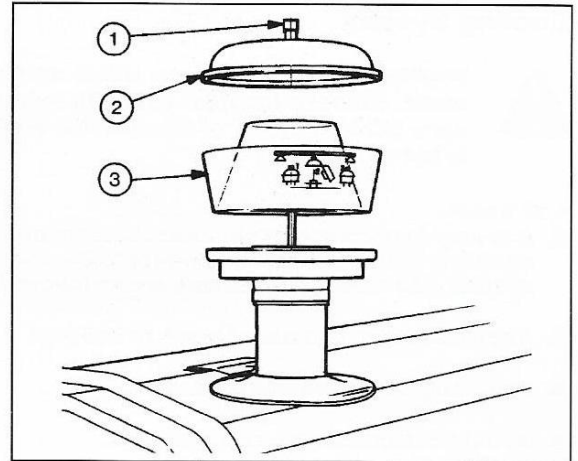

Fig. 82
1. Loosen the knurled nut (1, Fig. 82) and remove the cover (2) and bowl assembly (3).